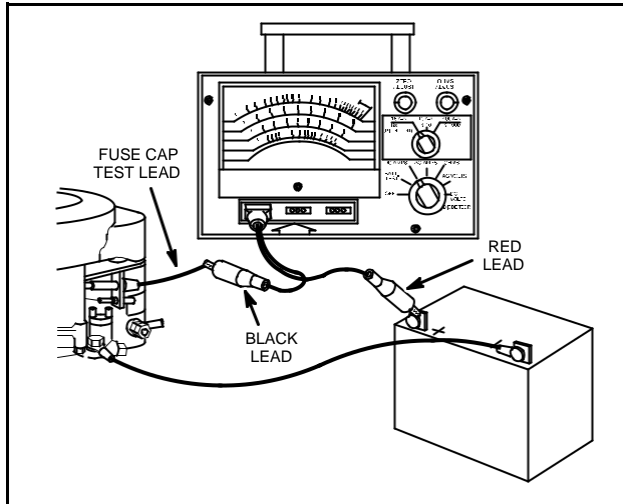

Fig. 754 – TESTING FOR SHORTS
5. Attach BLACK test lead clip to fuse cap test lead, Fig. 754.